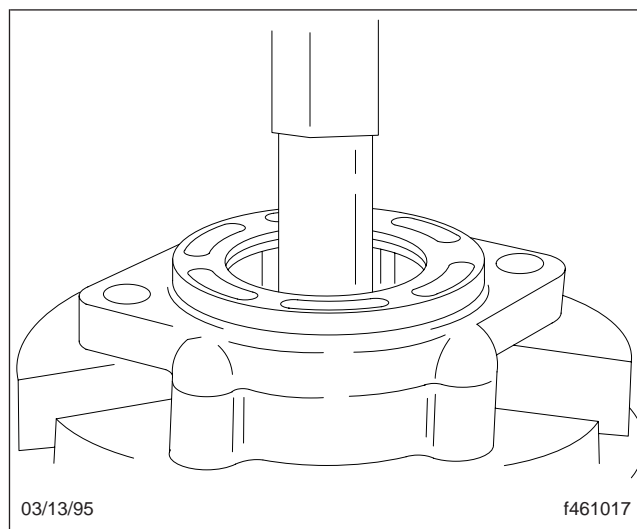

Fig. 21, Pressing a New Needle Bearing into the Cover
- 4.3 Using a 7/8-inch deep socket, press the new needle bearing into the cover until it is flush with the inside surface of the cover. See Fig. 21.